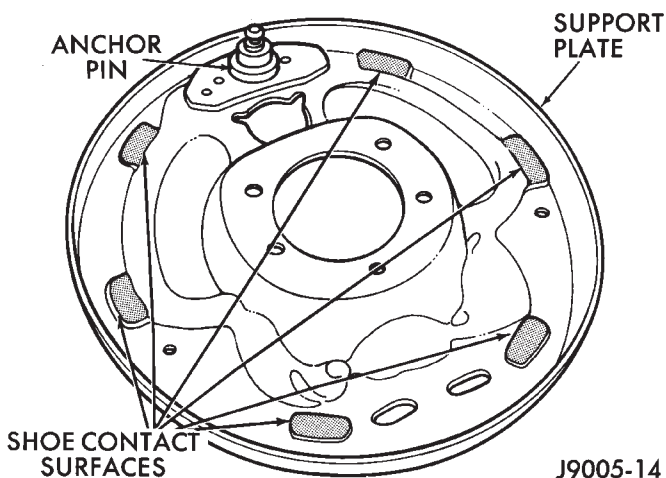

Fig. 34 Shoe Contact Surfaces
- (1) Clean support plate with brake cleaner.
- (2) If new drums are being installed, remove protective coating with carburetor cleaner or brake cleaner.
- (3) Apply multi-purpose grease to brake shoe contact surfaces of support plate (Fig. 34).